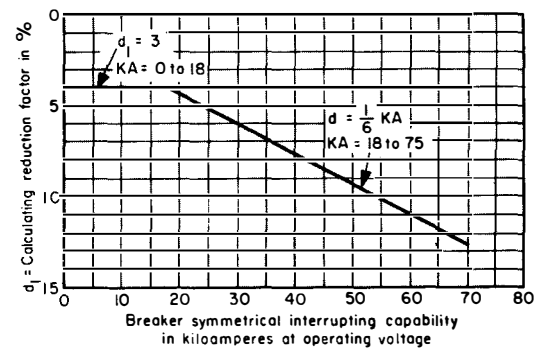

FIG. 1 AC High-Voltage Circuit Breaker Interrupting Capability Factors for Reclosing Service
Power circuit breakers are sometimes used for reclosing duty to maintain service continuity. When applied in this manner, the interrupting capacity of the breaker must be derated in accordance with Figure 1.
**Step #2** Determine the factor  $d_1$  from the reclosing capability curve in Fig. 1 for the current value determined in step #1.